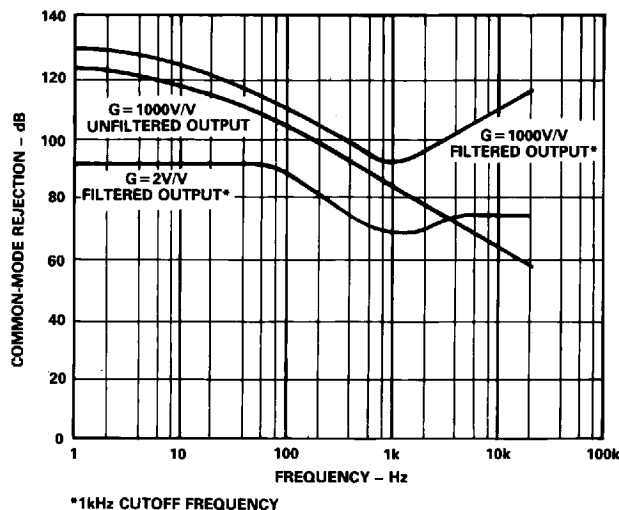

Figure 11. Common-Mode Rejection vs. Frequency and Gain
**Common-Mode Rejection:** CMR as a function of gain and frequency is shown in Figure 11. The best results (140dB @ 60Hz) are obtained by programming the low pass filter with a 10Hz cutoff frequency, which contributes an additional 30dB to the 1kHz specification where 60Hz noise is not attenuated by the filter.